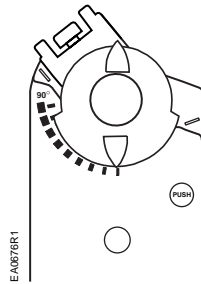

Figure 12.
- e. Place the position indicator to the "0" position on the outside scale. Figure 12.